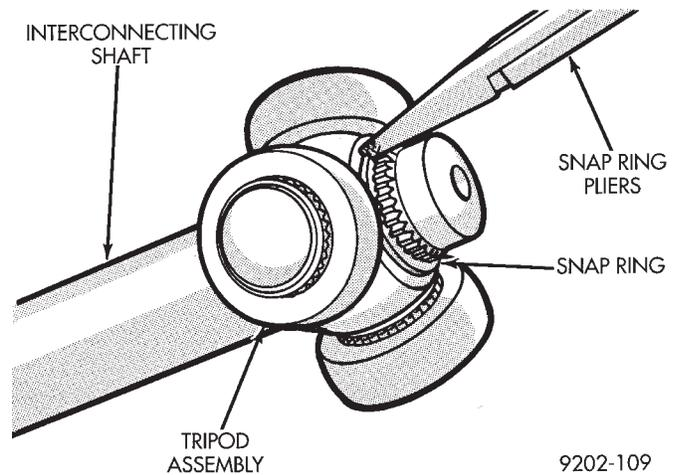

Fig. 6 Removing Outer Tripod Retaining Snap Ring (G.K.N.)
(1) Expand and remove the outer tripod assembly to interconnecting shaft, retaining snap ring (Fig. 6).